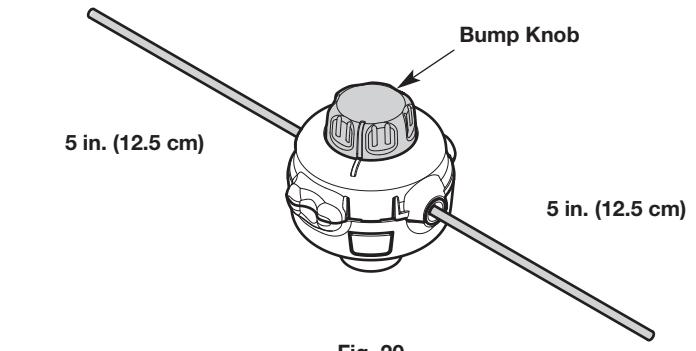

Fig. 20
5. Turn the bump knob to wind the line until about 5 inches (12.5 cm) protrude from each side of the cutting head (Fig. 20).